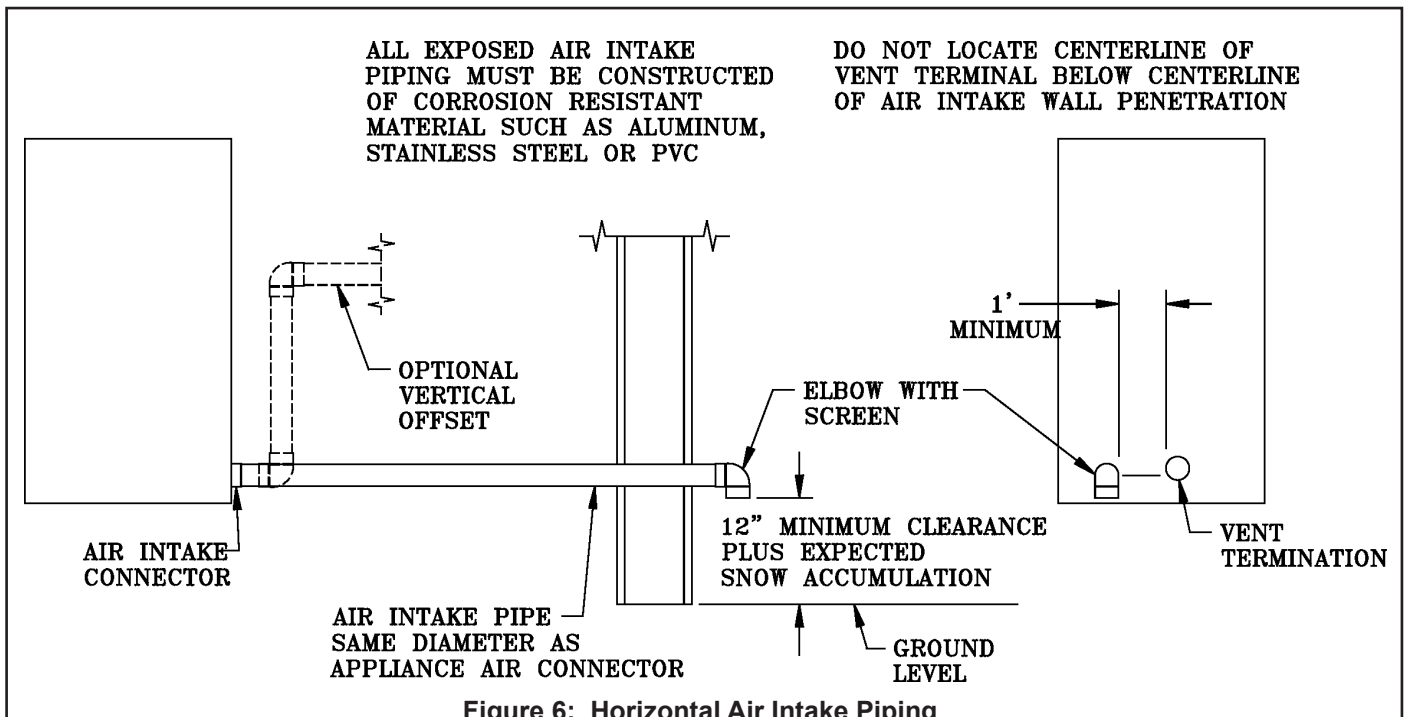

Figure 6: Horizontal Air Intake Piping
C. COMBUSTION AIR - See Figures 6 and 7.
4. The maximum air inlet length is fifty (50) equivalent feet. Air inlet length is equal to the total length of straight pipe plus the equivalent length of fittings. Consult conduit manufacturer for equivalent length of fittings and pipe.
6. Air intake termination must be located at least twelve (12) inches above grade plus the expected snow accumulation.
8. The air intake pipe must be adequately supported with straps or supports no less than five (5) feet apart. The completed air intake pipe system must be rigid and able to withstand impacts without collapse.